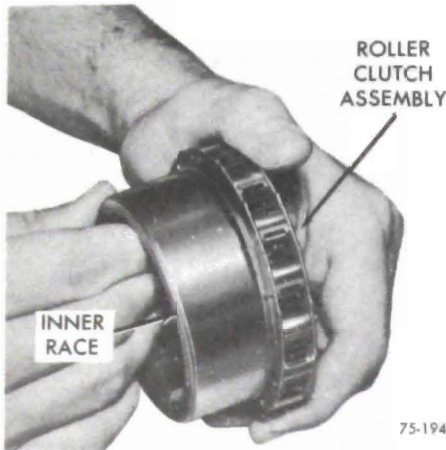

Figure 75-225
1. Install low and reverse roller clutch assembly to inner race. See Figure 75-225.